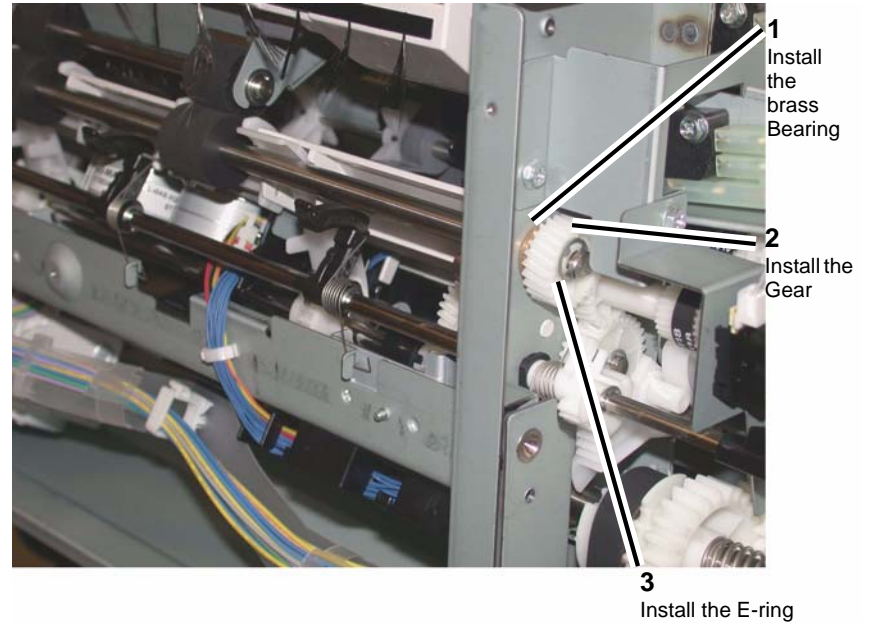

Figure 19 Installing the Eject Roll Shaft rear parts
- b. Install the brass bearing, the Gear and the E-ring onto the rear of the Eject Roll Shaft (Figure 19).